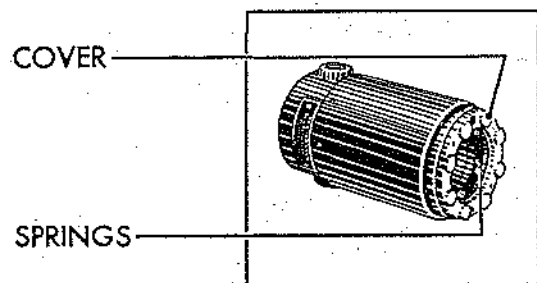

Figure 83
(10) Insert the spring and cover assembly against the seal assembly, as shown in Fig. 83.